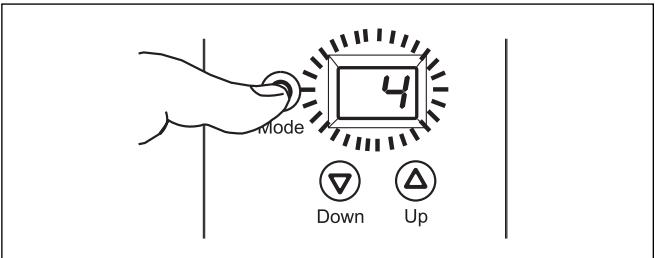

Figure 5
3. Press the  button again to display the current leak setting (Figure 5).